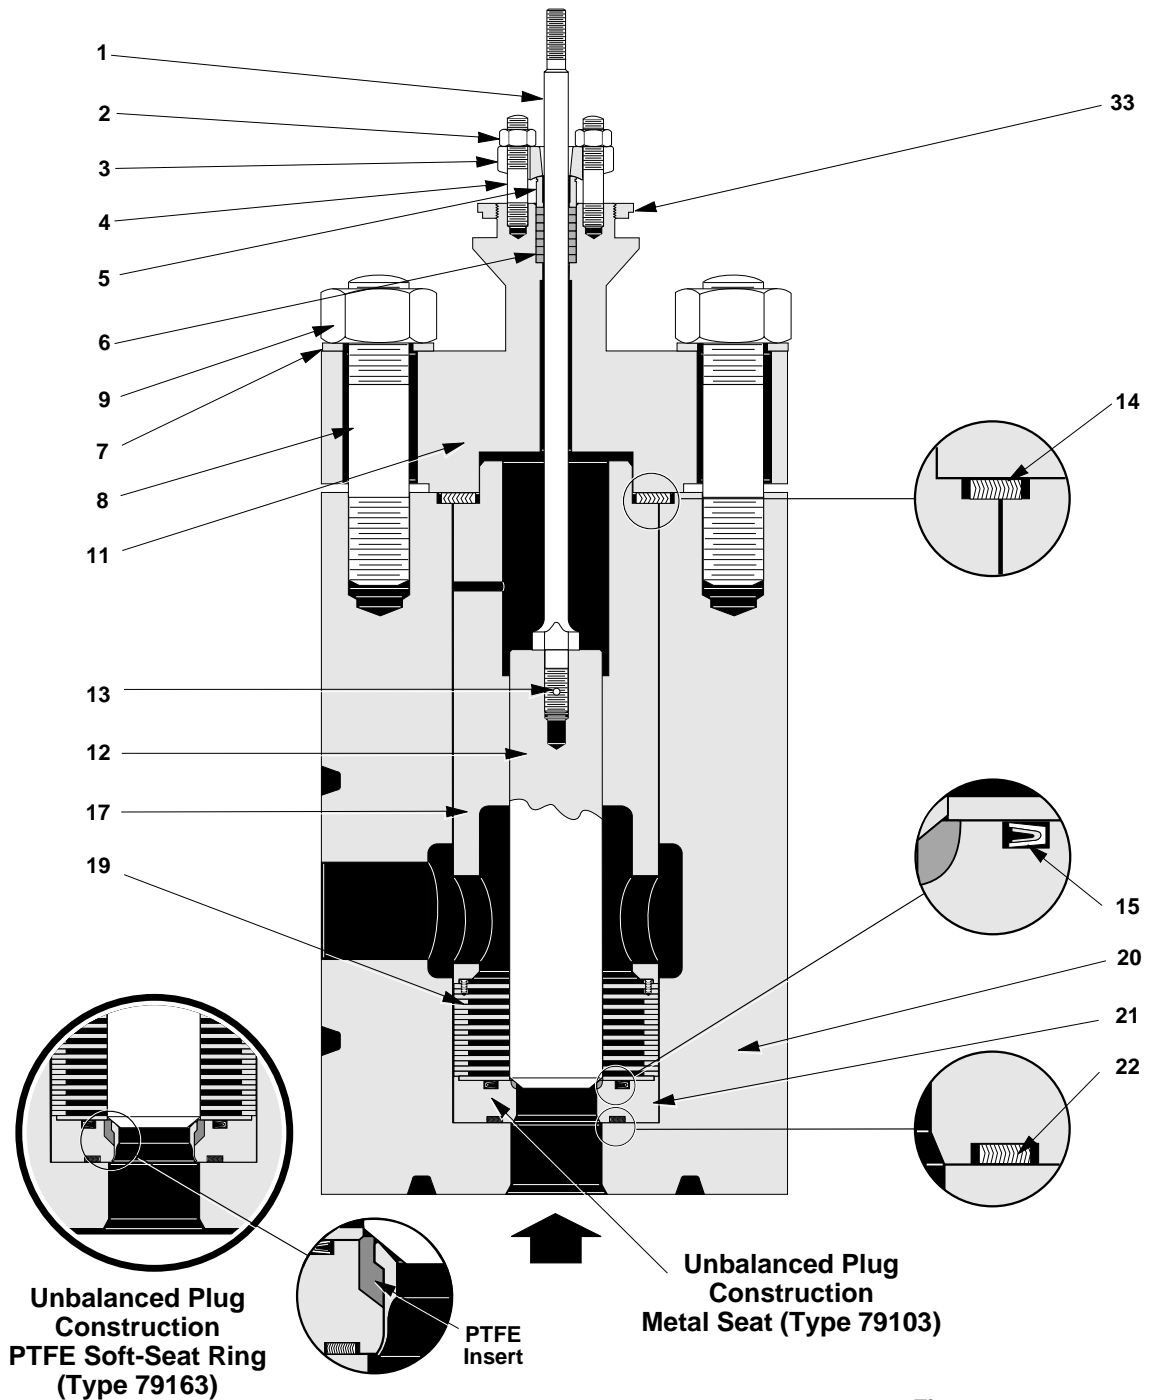

Figure 3
8.1 Packing Box (Figures 3 to 6)
In order to get a higher tightness, the 79003 Series valves are equipped with a seat-ring with PTFE insert (“Soft-seat”) — see Figures 3 to 6. The assembly and disassembly operations of valve body does not present particular difficulties and must be achieved in the same order that hard seat valves.
9. Valve Body Assembly (Figures 3 to 6)
9.1 Valve Sizes : 1” & 1 1/2” (Figure 3)